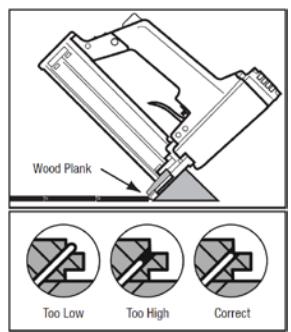

Figure 8
- Set compressor at 70 PSI. If tongue damage occurs, lower air pressure (Figure 8).
- Check for surface damage, air pressure setting, tongue damage, edge blistering, etc. (Figure 8) before proceeding. Make all adjustments and corrections before installation begins. Once proper adjustments have been made, remove and destroy the boards.